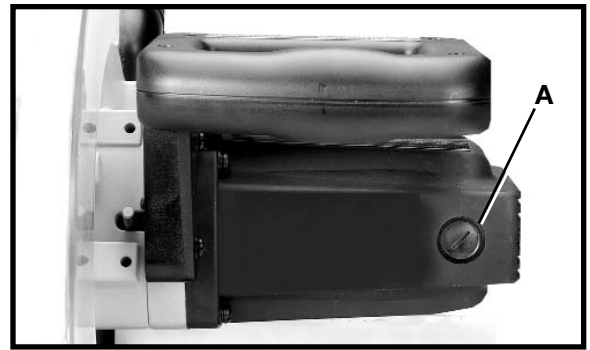
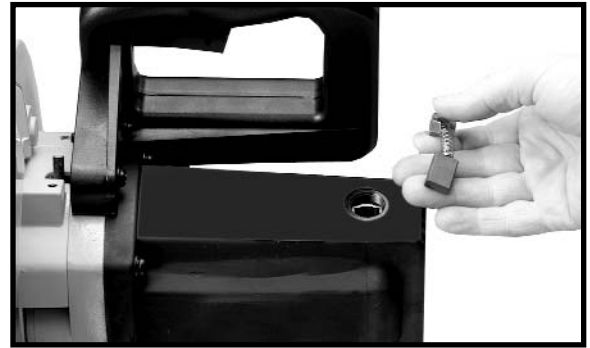

Fig. 48
Fig. 49
The brush holders (A) Fig. 48 are located on the motor housing opposite each other. Fig. 49 illustrates one of the brushes removed for inspection. When the carbon on either brush is worn to 3/16" in length or if either spring or shunt wire is burned or damaged in any way, replace both brushes. If the brushes are found serviceable after removing, reinstall them in the same position as removed.